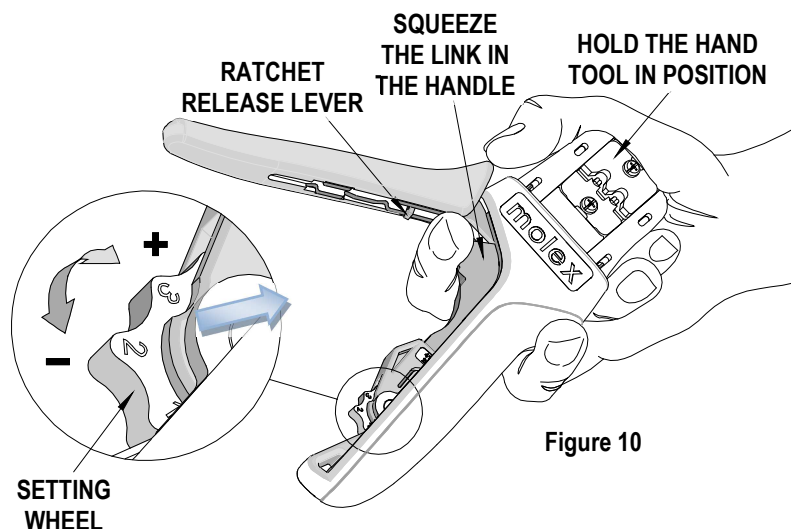

Figure 10
How to Adjust Tool Preload (See Figure 10)
1. Hold the hand tool in the palm of your hand as shown in Figure 10. Using your index finger, squeeze the link toward the top of the hand tool frame. This will release the preload adjustment wheel.
2. Rotate the setting wheel counterclockwise (CCW) to increase handle force. The numbers will display higher. To decrease handle force, rotate the setting wheel clockwise (CW).